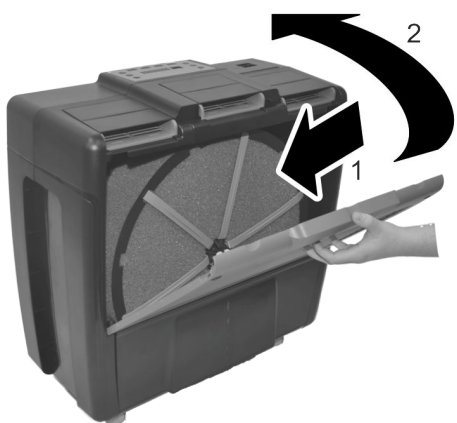

Fig. 19: Closing the outlet grille
4. → Insert the outlet grille into the guides (Fig. 19/1) and press it onto the unit (Fig. 19/2).